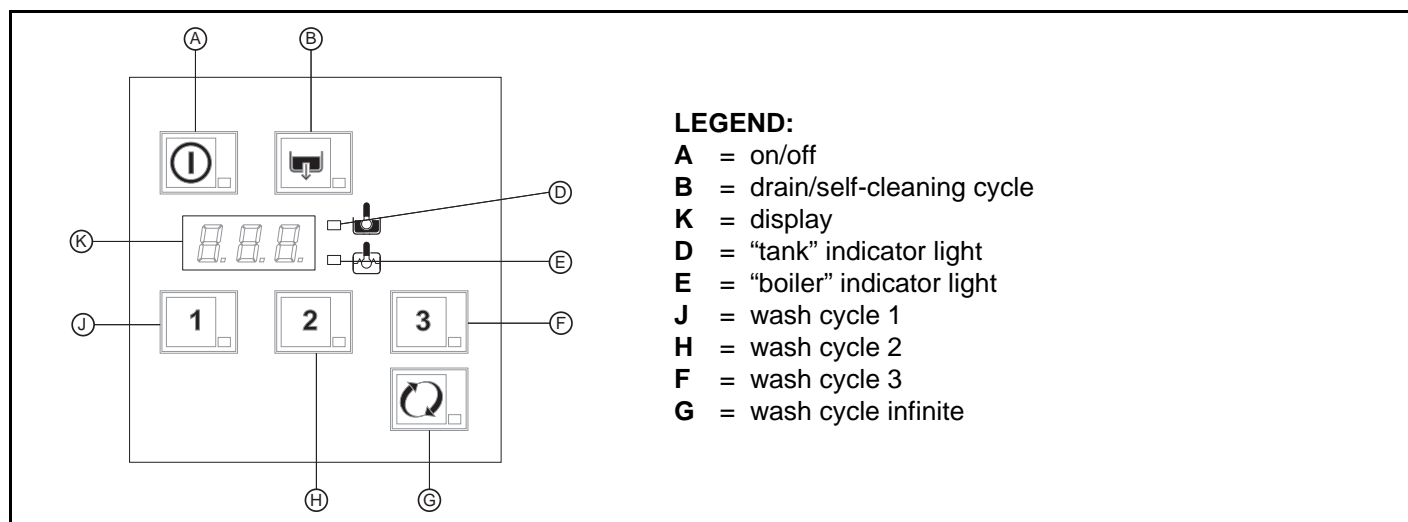

Figure 12
The indicator light of the on/off button “A” (Figure 12) comes on, indicating that the potwasher is powered and that water is being introduced and heated. The word “FILL” is shown on the display during the entire filling and heating stage:
To display the boiler temperature during heating of the tank, open the door and press "J" button (Figure 12).
For lightly soiled pots and pans: press "J" button (Figure 12) (see table of times).
For normally dirty pots and pans: press "H" button (Figure 12) (see table of times).
For very dirty pots and pans: press "F" button (Figure 12) (see table of times).
For particularly dirty pots and pans with dried food residue, pans with a special shape or for other specific needs of the user: press "G" button (Figure 12), which initiates a continuous wash until the operator selects an automatic cycle.
- Select the drain cycle by pressing "B" button (Figure 12).
- Switch off the potwasher by pressing "A" button (Figure 12).